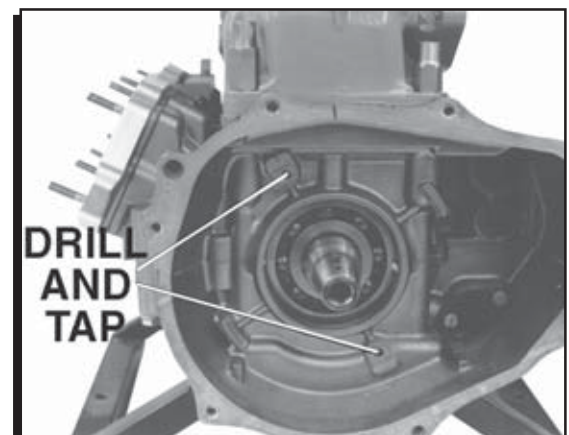

Figure 10 Modifying the Kawasaki 750 Case.
**Kawasaki 750 installation:** The engine case mounting pads of the Kawasaki 750 must be drilled and tapped (Figure 10).